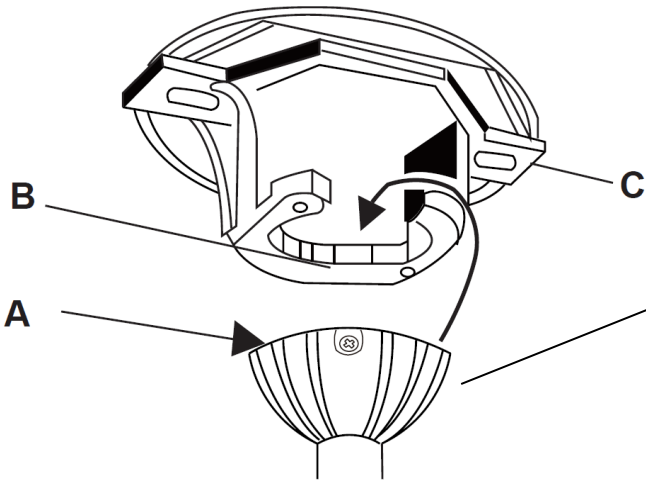

Fig. 7A
Lift the fan assembly onto the mounting bracket. Ensure the key slot (A) of the hanger ball is positioned on the key pin (B) of the mounting bracket (C) to prevent the fan from rotating when in operation. (Fig.7A)